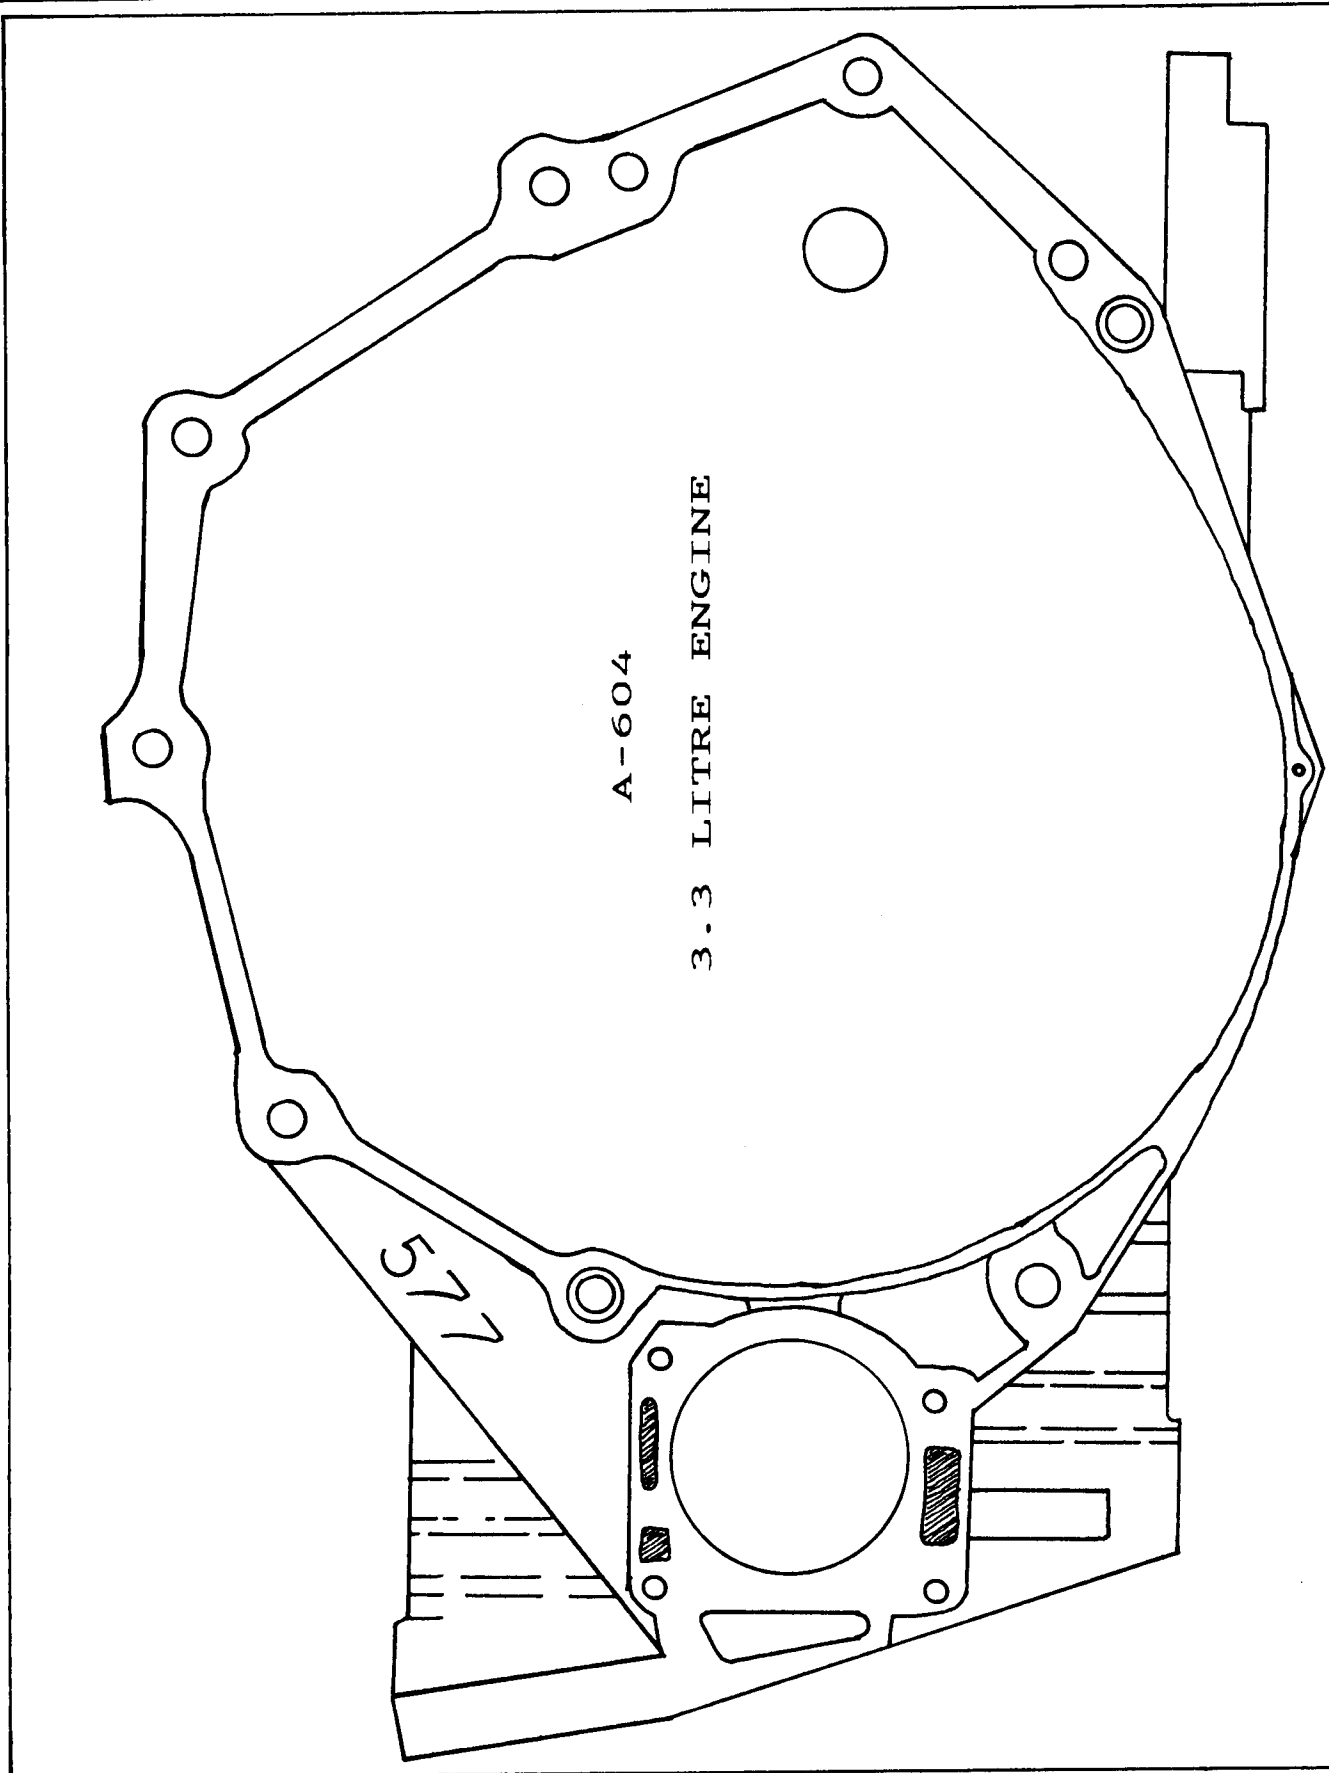

Figure 11
- For the 3.3 Litre Bell Housing pattern, refer to Figure 11.